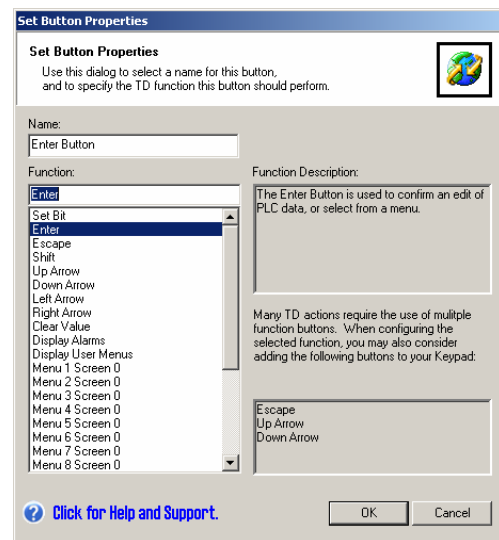

Figure 3-10 Button Properties Dialog
3. Select the function for the button and provide a valid function name. Click OK. See Figure 3-10 for an example of the TD 200C button functions.